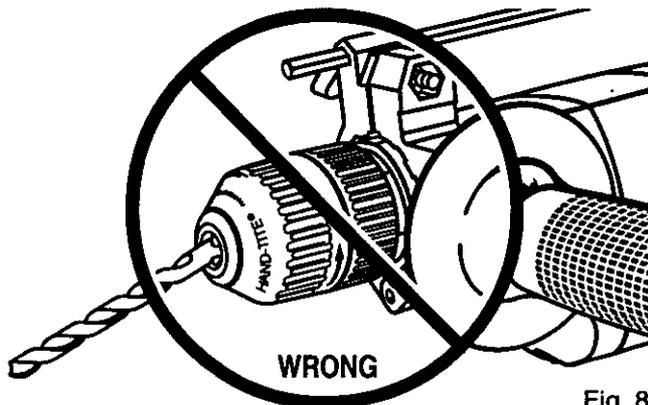

Fig. 8
**⚠ WARNING:** Do not insert drill bit into chuck jaws and tighten as shown in figure 8. This could cause drill bit to be thrown from your drill resulting in possible serious personal injury or damage to your chuck.